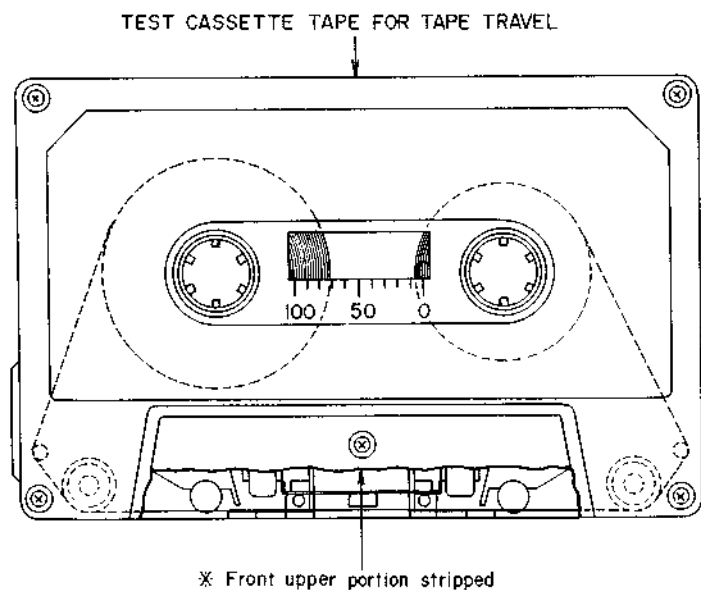

Fig. 5
- 1) When using an ordinary cassette, the tape guides and heads, etc. are not visible. As shown in Fig. 5, use a cassette tape from which the upper part of the cassette case has been stripped off for easy visibility of the head area.